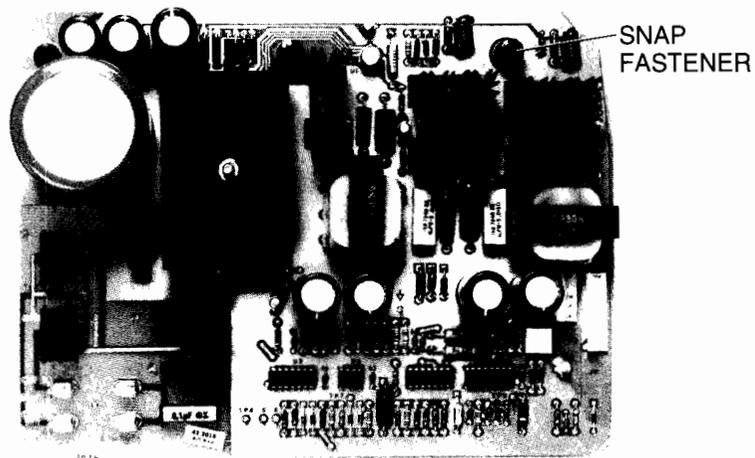

Figure 7-8. Power Supply PCA (Standard)
2. At top of the Power Supply PCA, pull outwardly on each of the three snap fasteners securing PCA to mainframe (see figure 7-8).